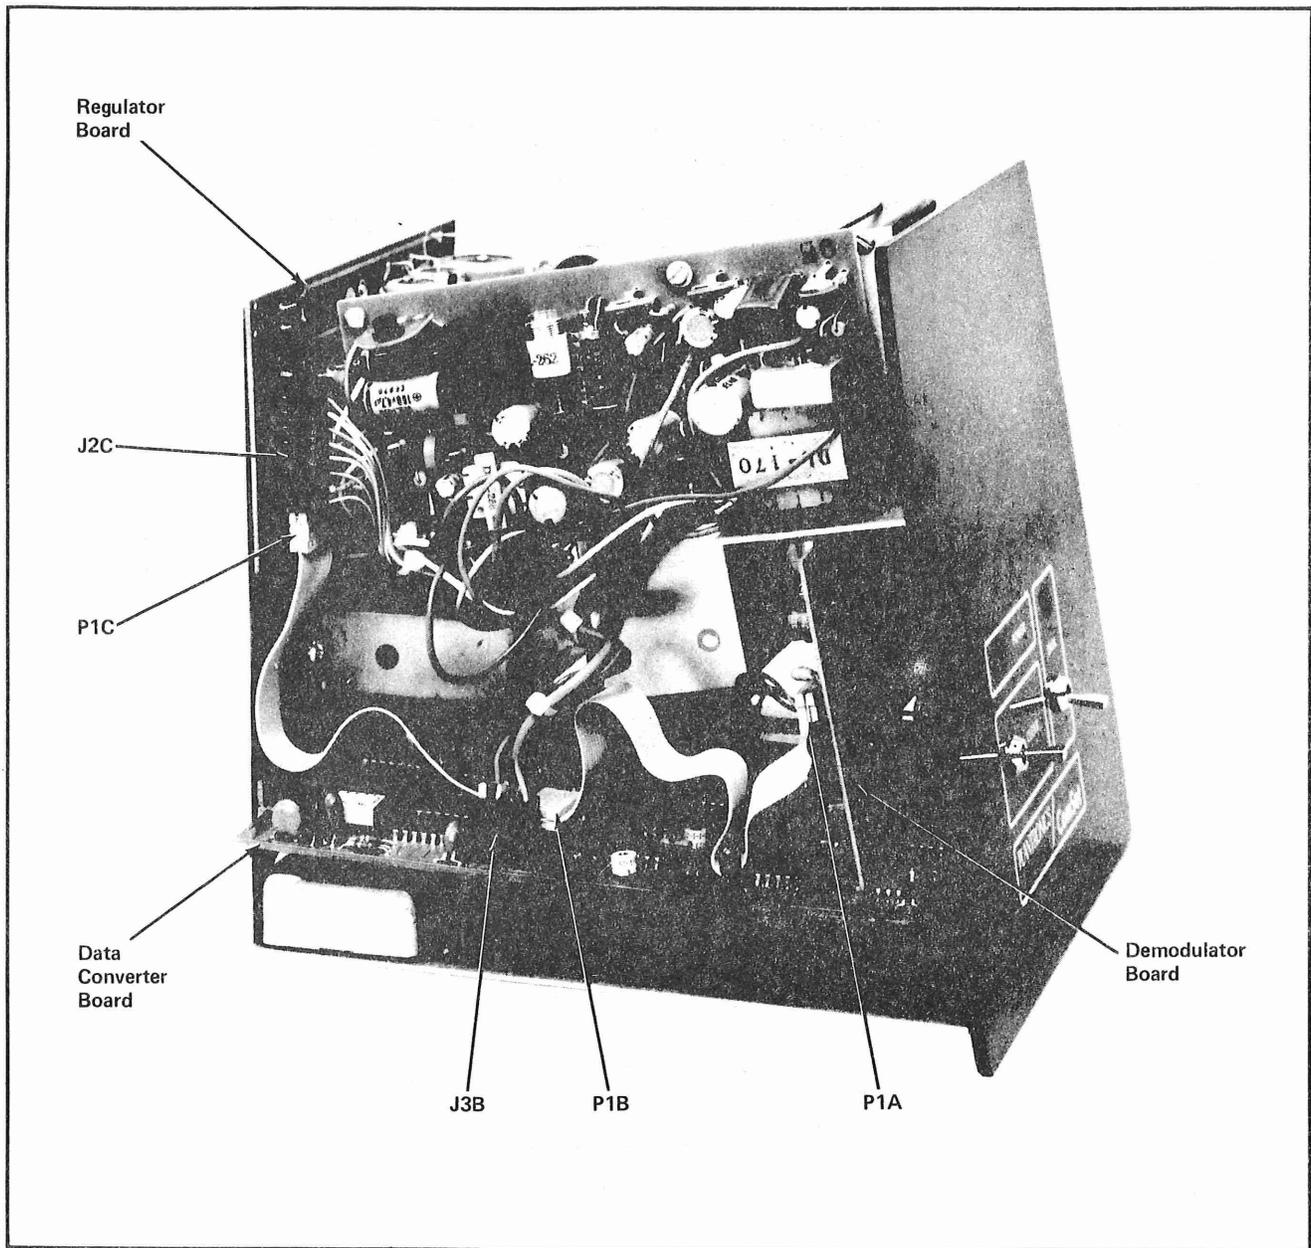

Figure 4-4. Left Side of Chassis
- (d) Disconnect connectors J2C and P1C from the regulator board. (See figure 4-4.)
- (e) Connect J2C and P1C to the regulator board. (See figure 4-4.)
- (d) Disconnect P1B, J2B and J3B from the data converter board. (See figures 4-4 and 4-6.)
- (b) Connect P1B, J2B and J3B to the data converter card. (See figures 4-4 and 4-6.)
- (e) Disconnect P1A and J2A from the demodulator board. (See figures 4-4 and 4-6.)
(See figures 4-4 and 4-6.)
- (d) Disconnect J3B from the data converter board. (See figure 4-4.)
- (c) Connect J3B to the data converter board. (See figure 4-4.)